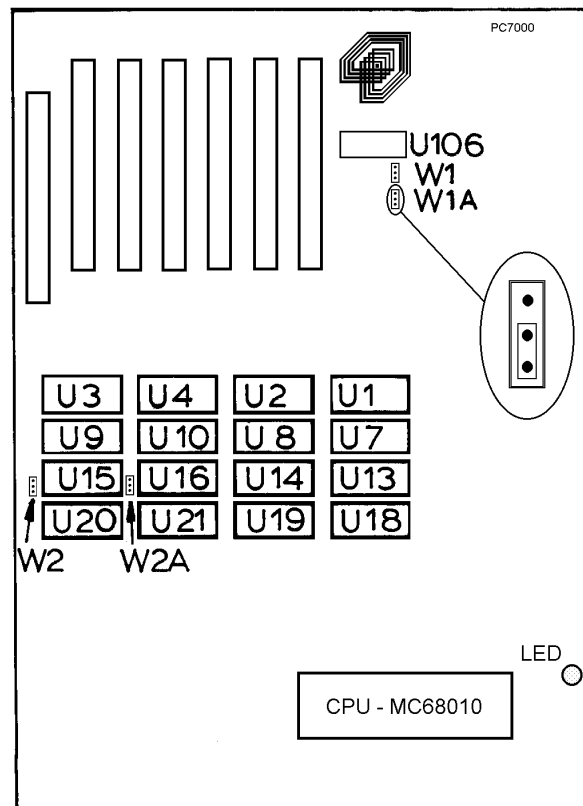

Figure 8-2: Main Board - Memory
Turn on the controller. Check the red LED on the main board, as shown in Figure 8-2. If it remains lit, the CPU is in the HALT state. Turn off the controller and remove all the driver cards. (For instructions on removing driver cards, refer to the section, "Adjustments and Repairs," later in this chapter.) Then turn the controller on again.
- Hardware: Refer to Figure 8-2. Make sure *all four jumpers* for configuring user RAM (W1, W1A, W2, W2A) are set for 128K RAM. The two lower pins must be shorted.